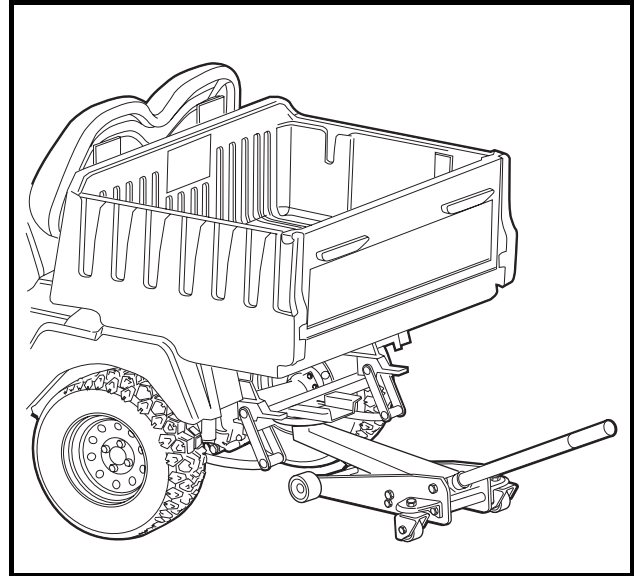

Figure 19-21 Floor Jack Positioned Under Hitch Bracket
7. Position a floor jack under the vehicle frame crossmember or trailer hitch mount (**Figure 19-21, Page 19-10**).